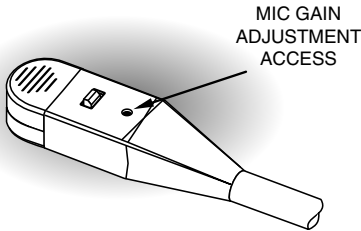

FIGURE 6. Air 3500 Mic Gain Adjustment
1. Insert a **small flatblade screwdriver** in the mic element. (Figure 6)